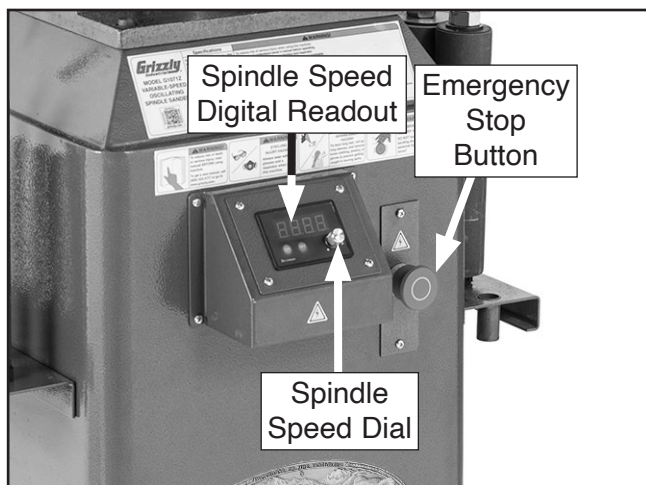

Figure 22. Location of Emergency Stop button, spindle speed dial, and spindle speed digital readout.
2. Press Emergency Stop button in (see **Figure 22**).
3. Turn spindle speed dial all the way counter-clockwise (see **Figure 22**).
4. Connect machine to power supply. Spindle speed digital readout (see **Figure 22**) will illuminate.